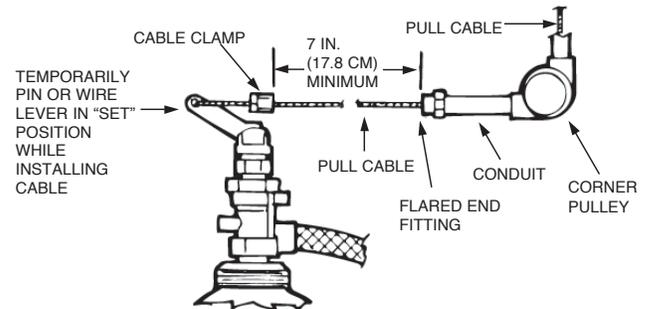

FIGURE 6-19
11. Position sleeve approximately 1/2 in. (1.3 cm) and crimp to secure wire rope. (Use the National Telephone Supply Company Nicopress Sleeve tool Stock No. 51-C-887 or equal to properly crimp stop sleeve.) See Figure 6-19.
6. Wire or pin the actuator lever in the “SET” position to prevent accidental discharge when installing the cable. See Figure 6-19.
7. Feed cable through hole in actuator lever and fasten with cable clamp. See Figure 6-19.
8. When installing, make certain there is at least 7 in. (17.8 cm) of free cable between the cable clamp and the flared end fitting for proper operation of lever. See Figure 6-19.